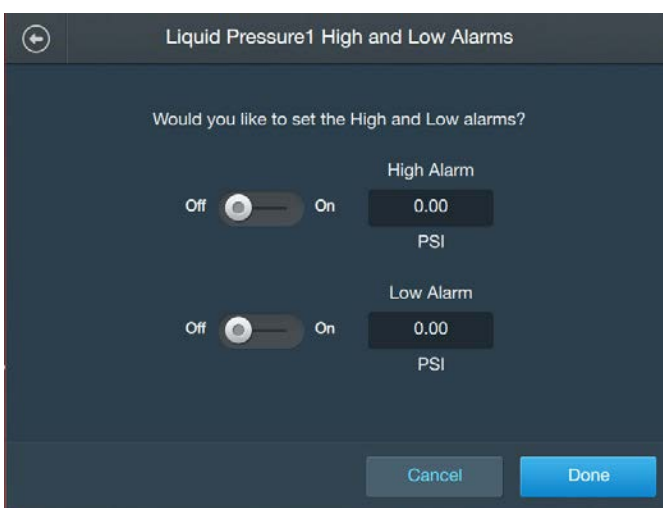

Figure 3.50. Liquid Pressure High and Low Alarms screen.
3. If you would like to set High/Low alarms for liquid pressure, touch the **High and Low alarms** field. On the screen that appears, there will be separate sections for both High and Low alarms (Figure 3.50). To set up the High alarm, slide the Enable/Disable button to the “Enable” side. In the field under “High Alarm,” enter the liquid pressure value that will activate the High alarm. Touch **Next**.